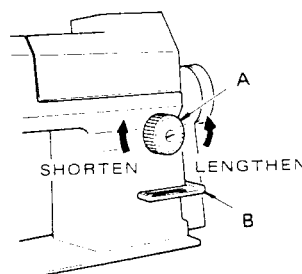

Fig. 34
- To regulate the length of stitch, turn feed regulating dial A to the left or right, as shown in Fig. 34.